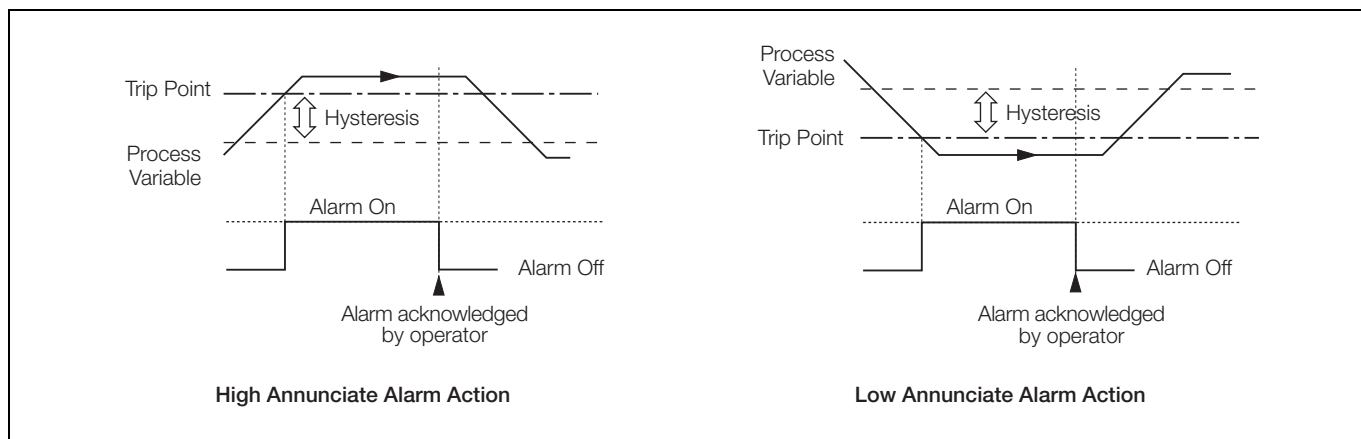

Fig. 4.14 High/Low Annunciate Alarms
- High/Low annunciate – see Fig. 4.14, page 79
Note. Annunciate alarms only – see Fig. 4.14.
- Rate alarms only – see Fig. 4.14.